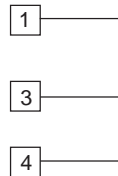

Fig.8
- b) Made a short circuit between terminals 1, 3 and 4 as shown in Fig. 8.